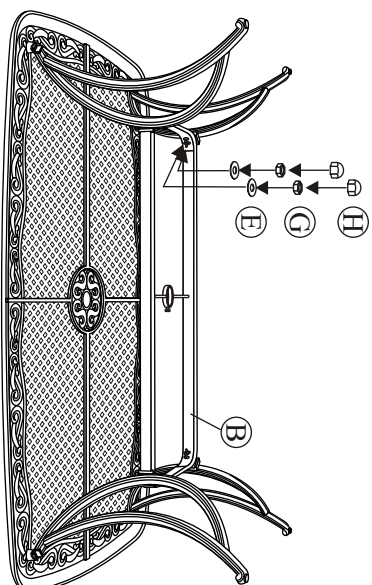

Fig. 2
Step 3: Attach a leg to the leg connector bracket by carefully guiding the bolts already in place on the table legs (each leg has two bolts) through the holes in the leg connector bracket. Add a washer and a nut to the end of each bolt as shown in Fig.2. **Hand tighten only. Do not tighten completely.** Repeat on the other three legs.
Attach a leg to the leg connector bracket by carefully guiding the bolts already in place on the table legs (each leg has two bolts) through the holes in the leg connector bracket. Add a washer and a nut to the end of each bolt as shown in Fig. 2. **Hand tighten only.** Repeat on the other three legs.